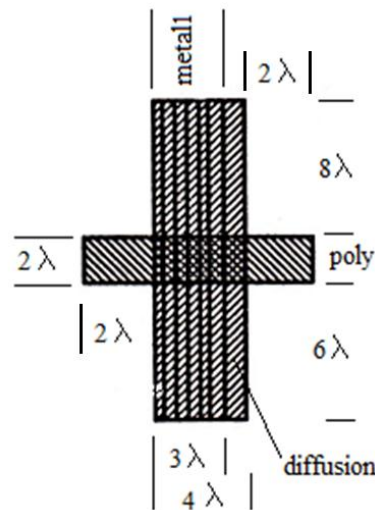

Figure 3B.
- 3B. Consider the multilayer structure shown in **FIG. 3B**. Given that $\lambda = 2.5 \mu\text{m}$. Refer the **Table I** for area capacitance calculation.